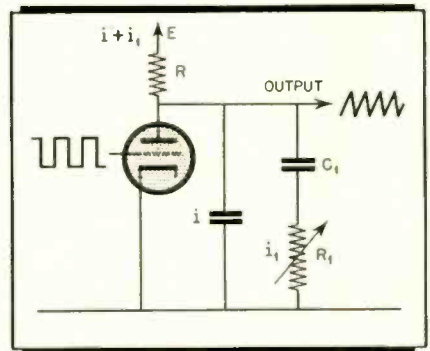

Figure 7
c. An auxiliary correcting circuit following the tube is shown in Fig. 7.
The integrating circuit and tube deliver an exponential wave form to the correcting network, which gives some slight improvement. The output voltage is given as  $v = K + A_1 e^{-\lambda_1 t} + A_2 e^{-\lambda_2 t}$  which is similar to that obtained for the circuit of Fig. 7.